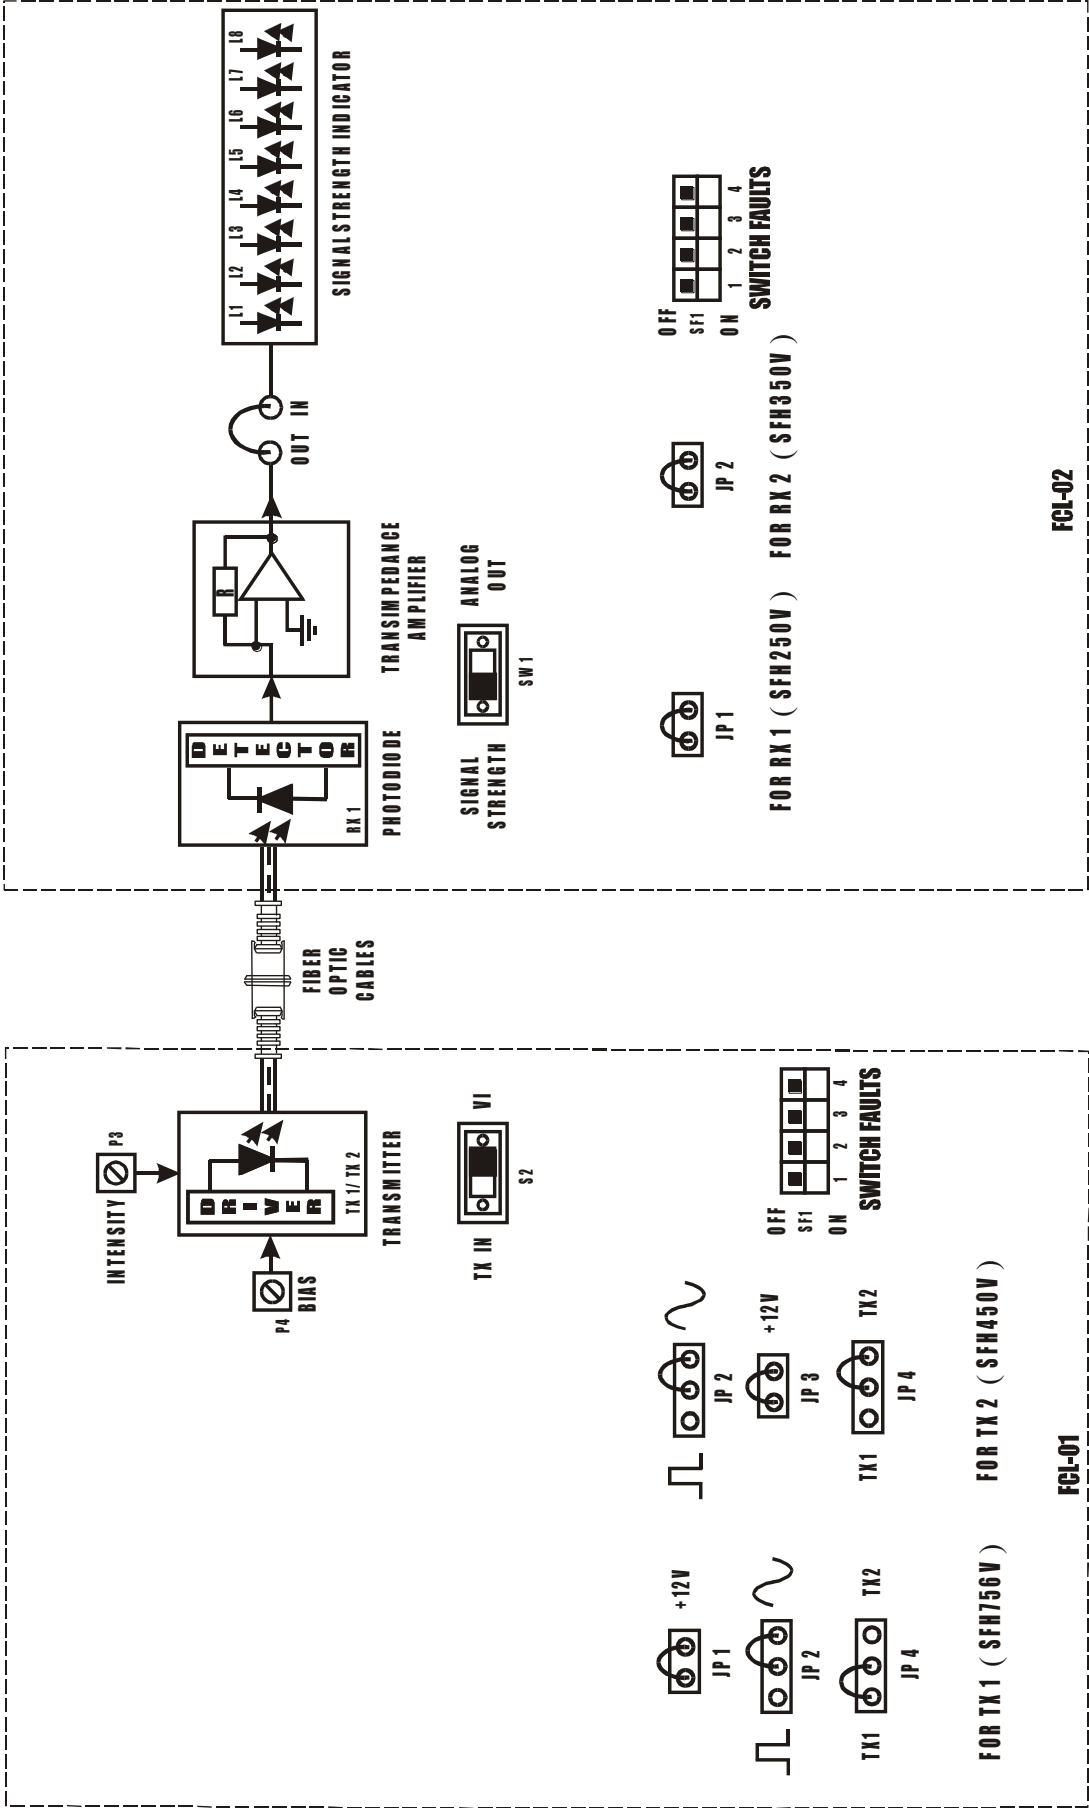

FIG. 8.1 BLOCK DIAGRAM FOR LATERAL, LONGITUDINAL AND ANGULAR DISPLACEMENT MEASUREMENT
- Refer to fig 8.1 and make the following connections.
- Keep the jumpers **JP1, JP2, JP3 & JP4, S2** on FCL-01 as shown in fig.8.1